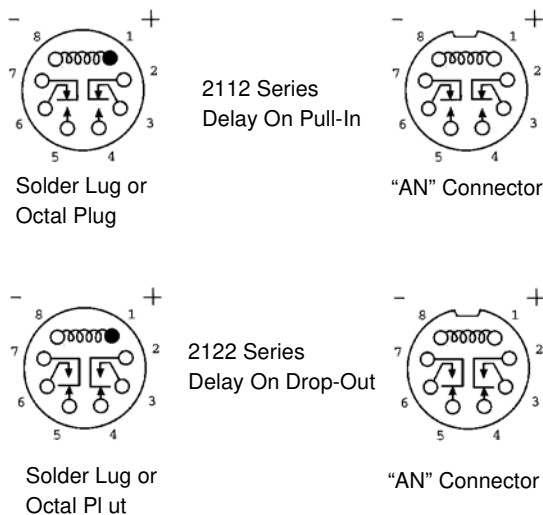

Figure 1
2. DESCRIPTION (Figure 1)
- Removed graphic from Figure 1.